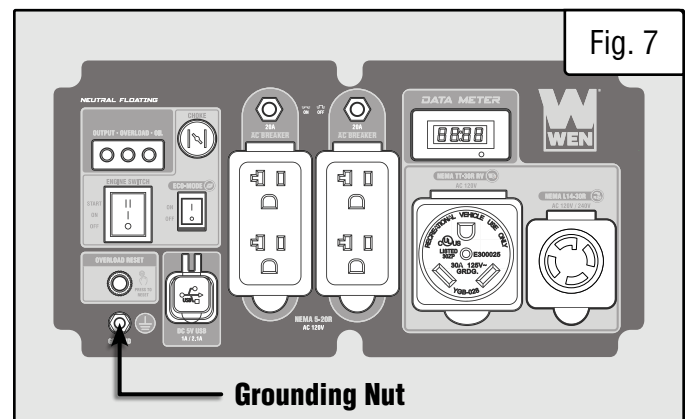

Fig. 7
1. Before starting the generator, check the fuel gauge (Fig. 7) to see if there is sufficient fuel inside the tank:
1. Attach one end of the grounding wire to the grounding nut (Fig. 7). Tighten the nut to secure the grounding wire.